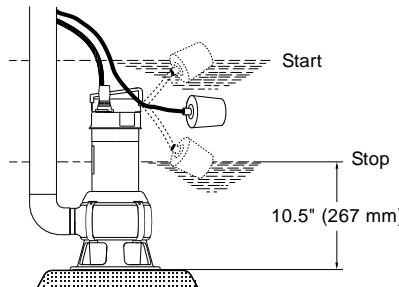

Fig. 6 Start/stop levels
- The pump is submerged in the liquid. During normal operation, the pump must be below the surface of the liquid. See fig. 6.